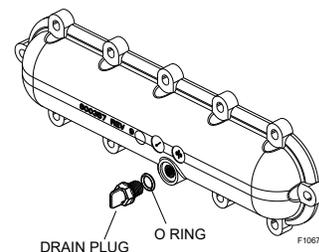
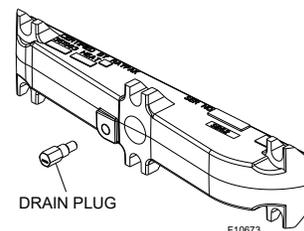

Figure 73. Return Header Drain Plug - Residential ("P" Prefix Model)
Figure 74. Return Header Drain Valve - Commercial ("B" Prefix Model)
2. Remove the ProTek Shield™ Assembly (if attached). Remove the heat exchanger inspection panel on the side opposite water piping to gain access to the drain plug on the return header. Open drain plug on return header. See **Figure 73** and **Figure 74**.